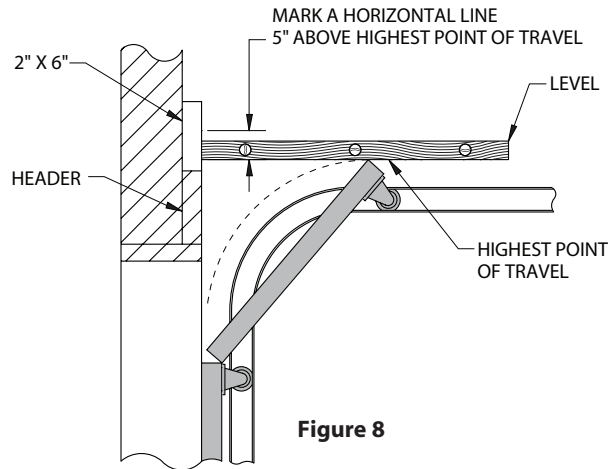

Figure 8
- 5) Use a level, as shown in **Fig. 8 (pg 4.7)** to find the highest point of travel for the the door.